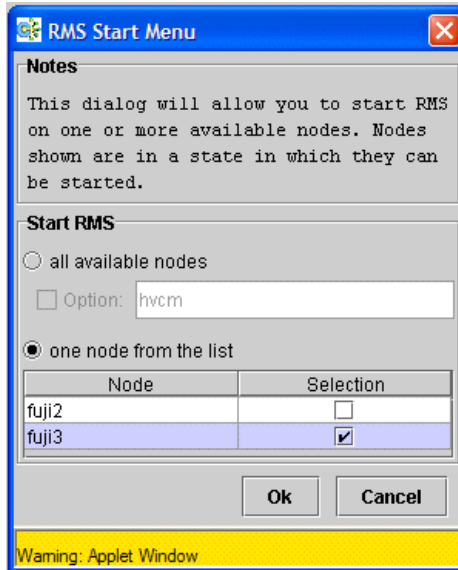

Figure 82: RMS Start Menu for individual nodes
1. Click on the *Start RMS* radio button for *one node from the list* and select the desired node or nodes (see Figure 82).